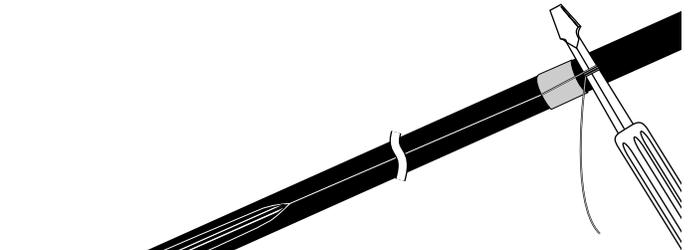

Figure 19
6.7 Using the shaft of a screwdriver as a handle, pull one rip cord at a time through the sheath to the opposite wrap of tape (Figure 19).